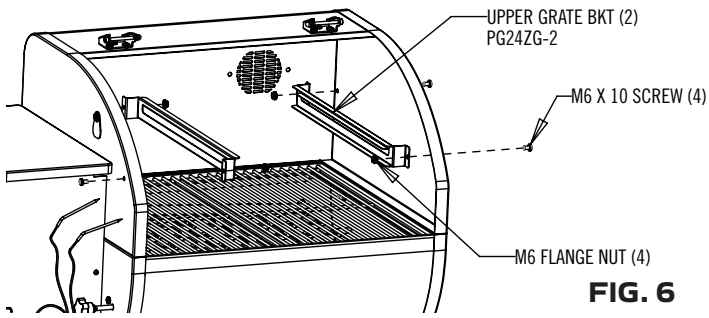

FIG. 6
1. Install the brackets as shown in Fig 6.